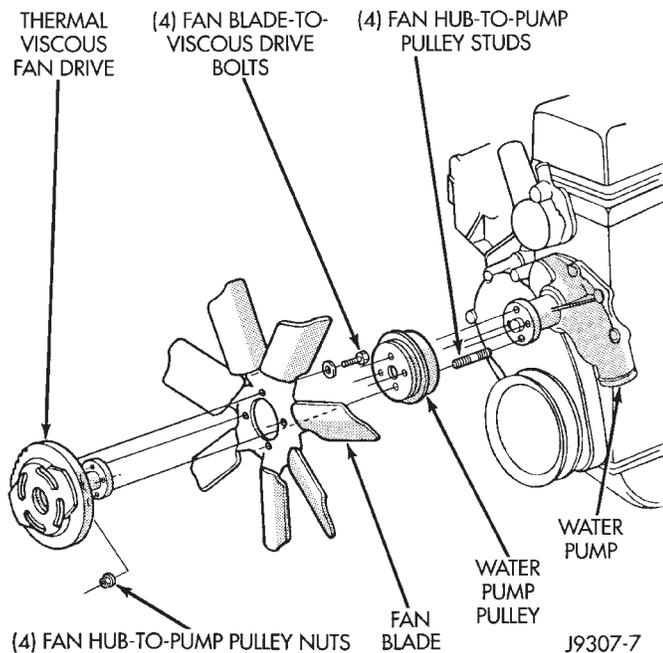

Fig. 48 Fan Mounting Nuts—4.0L 6-Cyl.Engine
(4) **4.0L Engine:** Remove the four fan hub-to-water pump pulley mounting nuts (Fig. 48). Carefully remove the fan assembly from the water pump pulley
(20) 4.0L Engine: Install the four nuts securing the fan assembly to the water pump (Fig. 48). Tighten nuts to 27 N·m (20 ft. lbs.) torque.
(21) 5.2/5.9L Engines: Install the fan/viscous fan drive assembly to the water pump.
(22) Rotate the fan blades (by hand) and check for interference at fan shroud.
(23) Be sure of at least 25 mm (1.0 inches) between tips of fan blades and fan shroud.
(24) Fill cooling system. Refer to Refilling Cooling System in this group.
(25) Connect battery cable at battery.
(26) Start and warm engine. Check for leaks.